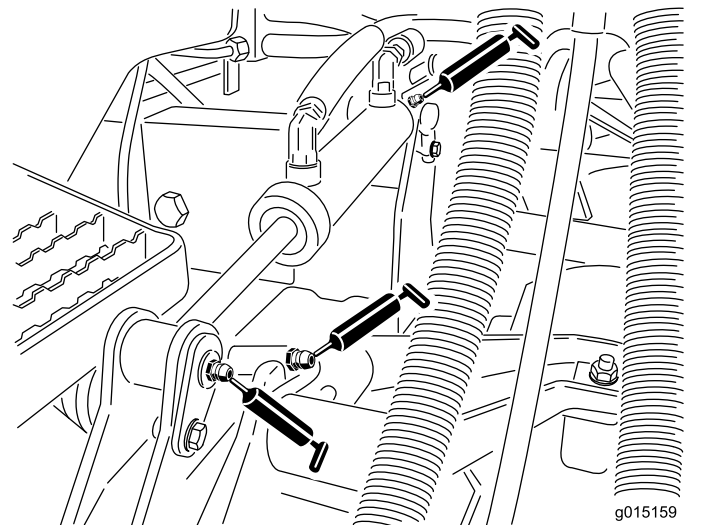

Figure 49
- Lift arm bushings (1 per cutting unit) (Figure 49)
- Lift cylinder bushings (2 per cutting unit) (Figure 49)